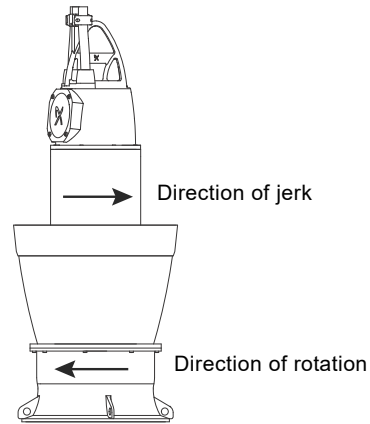

Fig. 25 Direction of jerk and rotation
- Turn the propeller or impeller by hand to make sure the propeller or impeller can rotate freely. See fig. 25.
4. Observe the jerk of the pump. If the pump jerks counterclockwise, the direction of rotation is correct. See fig. 25.
3. Observe the jerk of the pump. If the pump jerks counterclockwise, the direction of rotation is correct. See fig. 25.